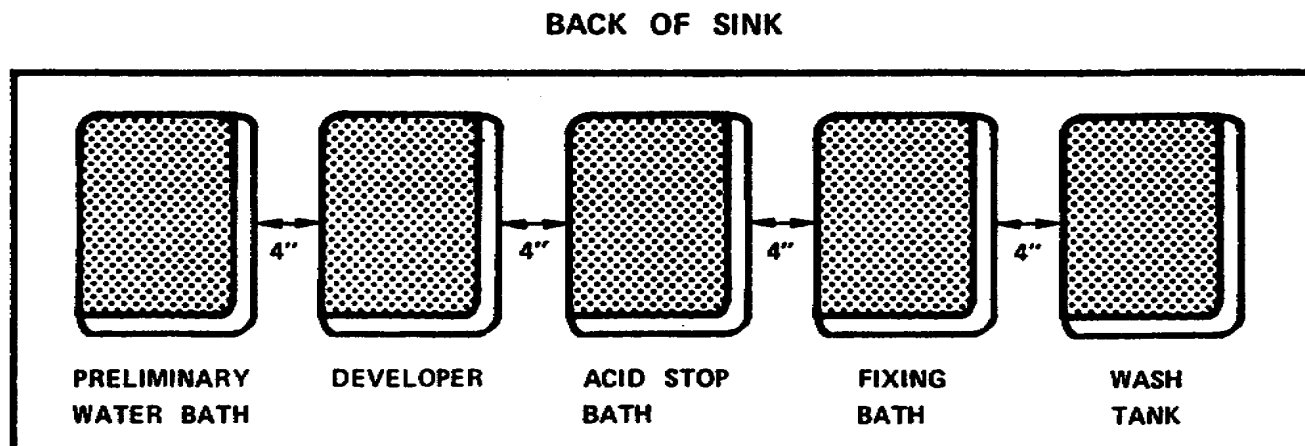

Figure 1-10. Arrangement of trays in tray processing
- (1) Preliminary water bath (presoak)
- (2) Developer
- (3) Stop bath
- (4) Fixer
c. Arrange the trays in a row as follows: the preliminary water bath, the developer, the acid stop bath, and the fixer last (fig 1-10).